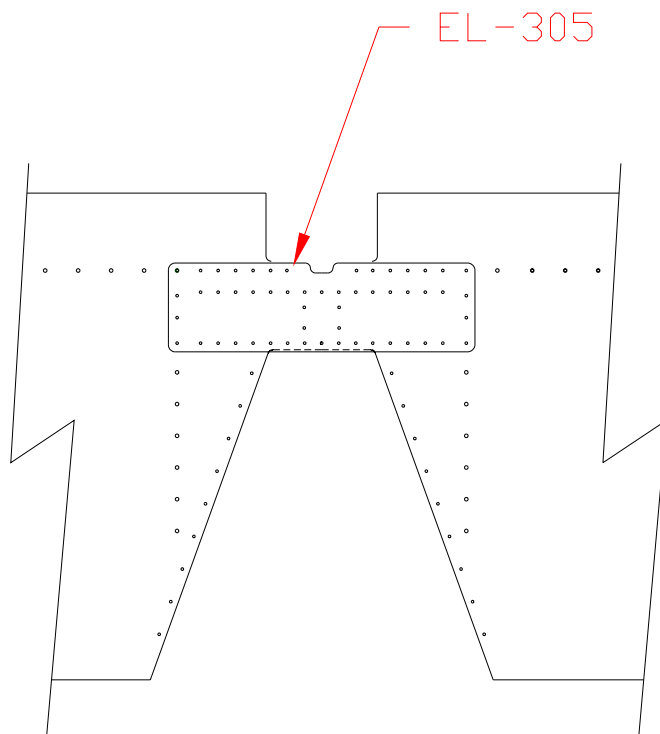

Figure 3.9.1
- 3) Rivet the Elevator Center Doublers to the Elevator with 1/8" avex rivets (RV-1410). Figure 3.9.1.